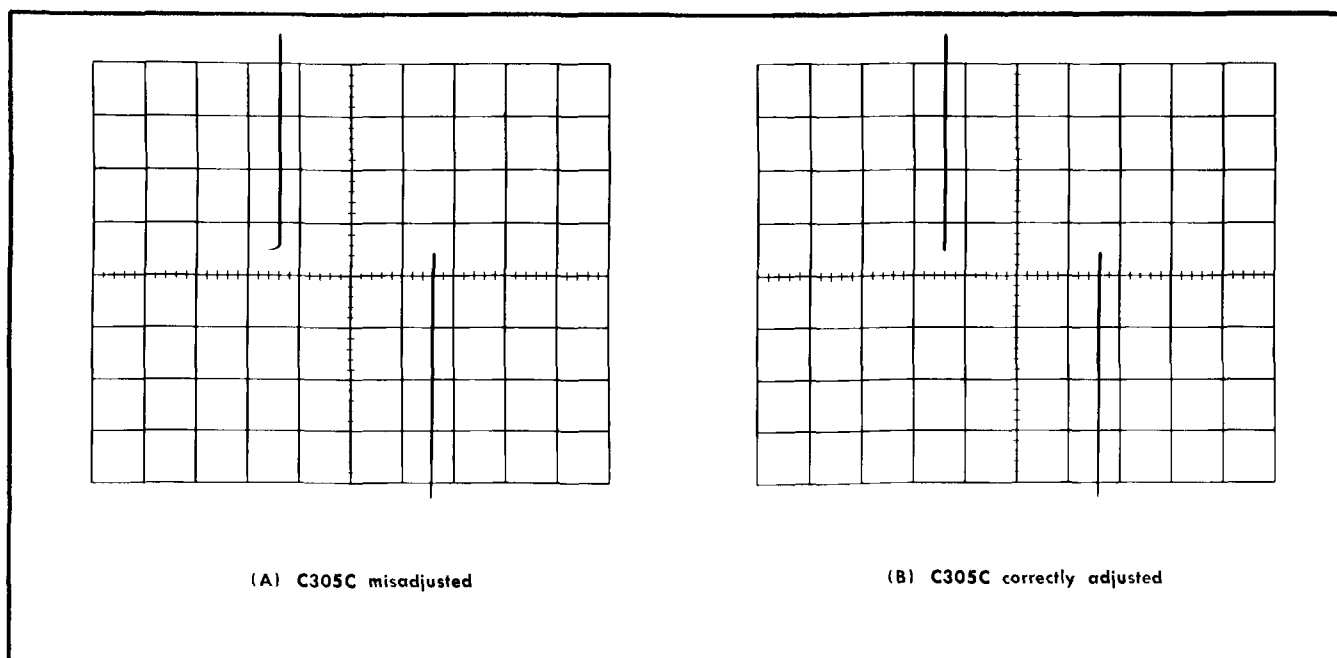

Fig. 5-5. Horizontal Amplifier attenuator compensation check; 1 kHz square-wave input; SWEEP TIME/CM switch setting, .1 mSEC.
k. Check—Square front corner on waveform, showing no more than 2% rounding or overshoot. See Fig. 5-5 for typical displays.